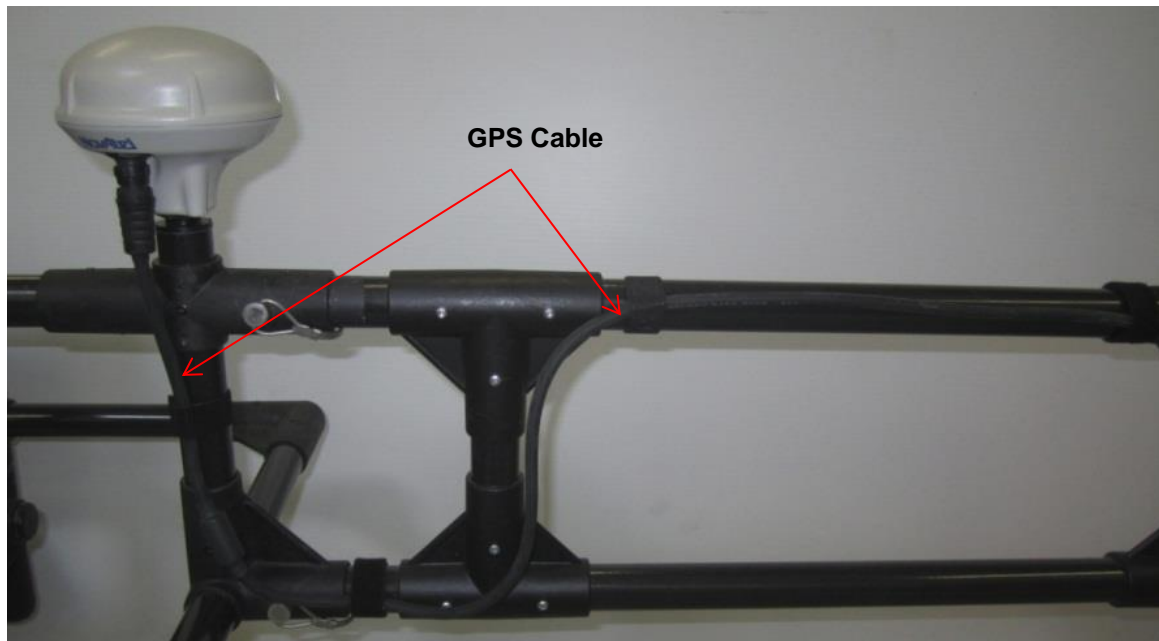

Figure 2-81: Routing GPS cable
1. Route the GPS cable up to the top of the SmartChariot Handle Assembly (Figure 2-81).